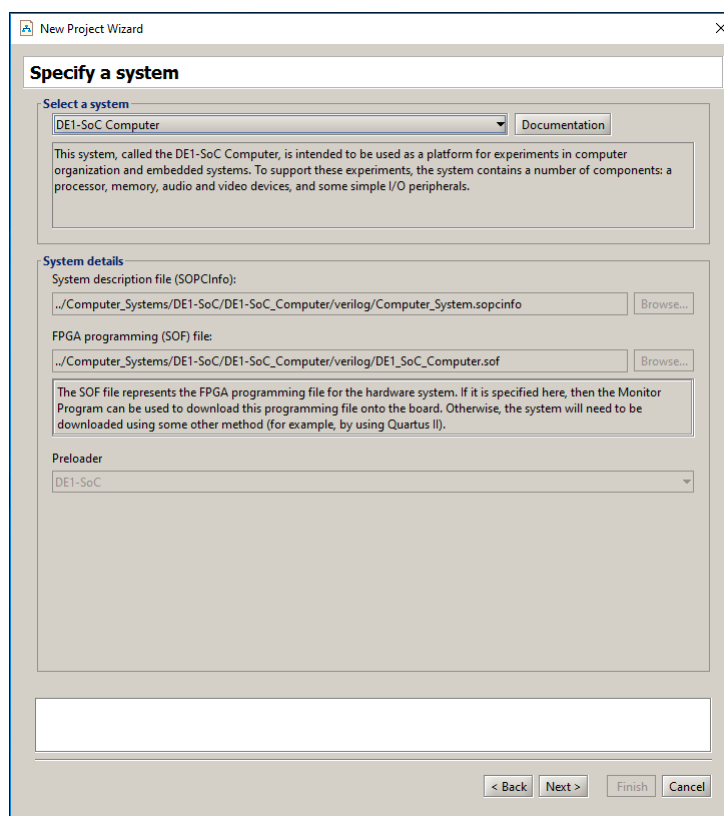

Figure 6. Specifying the desired hardware system.
2. Click **Next** to advance to the window shown in Figure 6, which is used to specify a particular system. A hardware system to be implemented on the FPGA board is usually generated by using Quartus's Platform Designer tool. Information about creating systems using Platform Designer can be found in the *Introduction to the Intel Platform Designer Tool* tutorial, which is available in the University Program section of Intel's website.
In the top right corner of Figure 6 there is a Documentation button. Clicking on this button opens a user guide that provides all information needed for developing Nios II programs for the DE1-SoC Computer, such as the memory map for addressing all of the I/O devices in the system. This file can also be accessed at a later time by using the command Settings > System Settings and then clicking on the Documentation button.